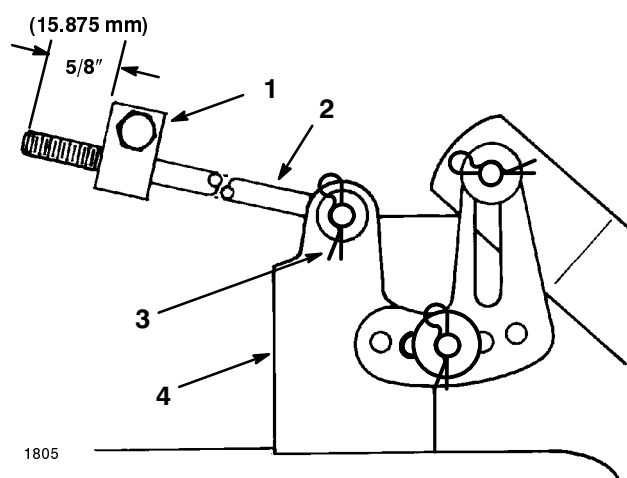

Figure 55
3. Measure the length of the rod extending out the front of the adjusting block on the sides of the chassis (Fig. 55). If the rod length is not 5/8" (15.875 mm), remove the hair pin cotter and washer from the end of the rod (Fig. 55), and turn the rod until the 5/8" (15.875 mm) dimension is obtained. Then install the end of the rod into the hole in the mower mount and secure in place with washer and hair pin cotter. Repeat this procedure on the opposite side of the mower.